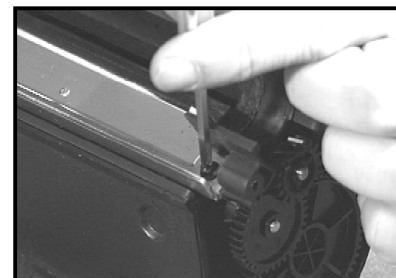

Figure 11
16. Remove the two screws securing the doctor blade in place (fig. 11).